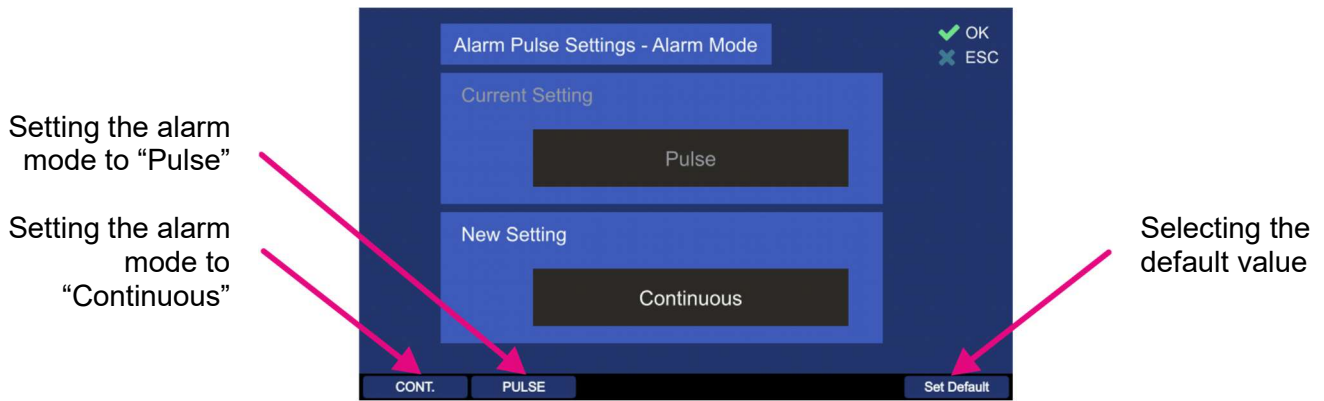

Figure 114. Alarm mode dialog
- By pressing the hotkey "Edit Value", the dialog for changing the alarm mode of the alarm output will be opened. The handling of this dialog is shown in Figure 114.